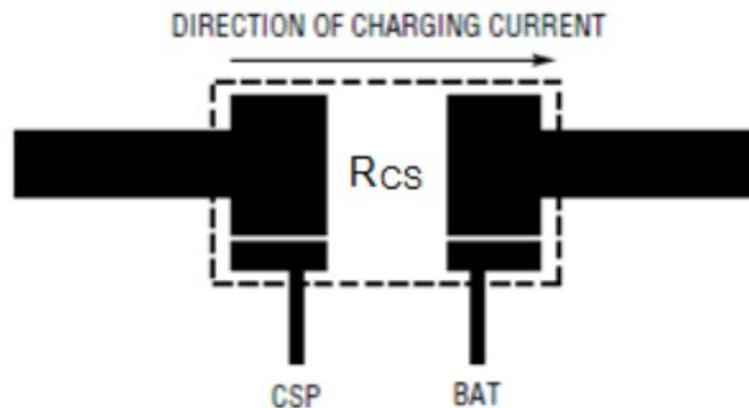

Figure 4 Kelvin Sensing of Charge Current
- (1) To minimize radiation, the 2 diodes, pass transistor, inductor and the input bypass capacitor traces should be kept as short as possible. The positive side of the input capacitor should be close to the source of the P-channel MOSFET; it provides the AC current to the pass transistor. The connection between the catch diode and the pass transistor should also be kept as short as possible.
- (2) The compensation capacitor connected at the COM1, COM2 and COM3 pins should return to the analog ground pin of the IC. This will prevent ground noise from disrupting the loop stability.
- (3) Output capacitor ground connections need to feed into same copper that connects to the input capacitor ground before tying back into system ground.
- (4) Analog ground and power ground(or switching ground) should return to system ground separately.
- (5) The ground pins also works as a heat sink, therefore use a generous amount of copper around the ground pins. This is especially important for high VCC and/or high gate capacitance applications.
- (6) Place the charge current sense resistor R_{CS} right next to the inductor output but oriented such that the IC's CSP and BAT traces going to R_{CS} are not long. The 2 traces need to be routed together as a single pair on the same layer at any given time with smallest trace spacing possible.
- (7) The CSP and BAT pins should be connected directly to the current sense resistor (Kelvin sensing) for best charge current accuracy. See Figure 4 as an example.